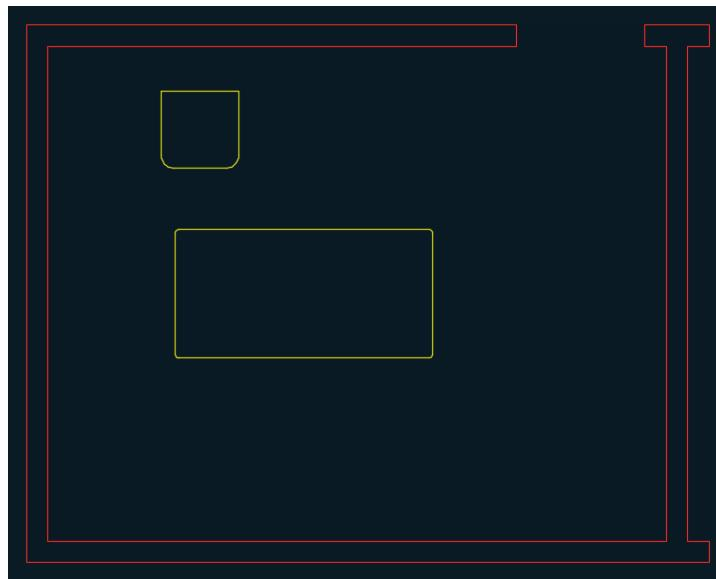

FIGURE 7.2 Using Fillet to round two corners
5. Press the spacebar to repeat the **FILLET** command. Click the bottom and right edges to create another arc. Figure 7.2 shows the result.